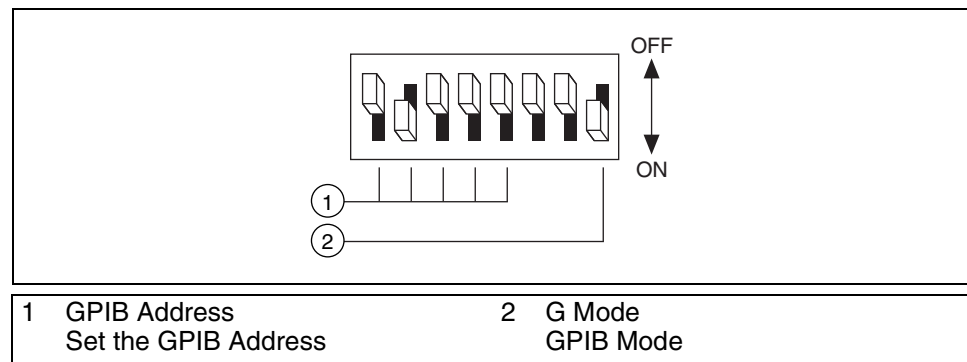

Figure 9-18. GPIB Configuration Settings for the NI Instrument Simulator
- Set the left bank of switches on the side of the box to match Figure 9-18.